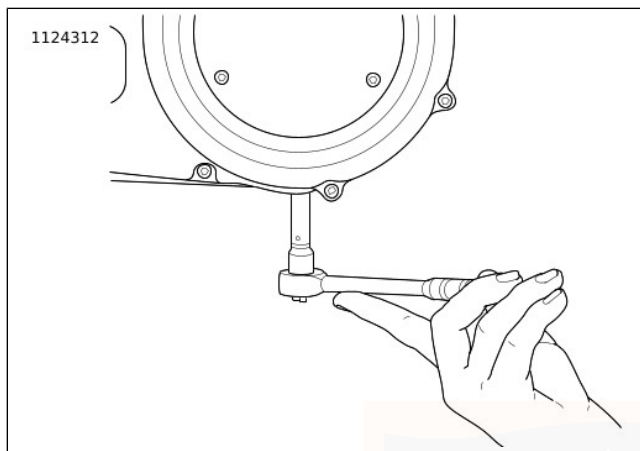

Figure 59. Removal/Installation of Chaincase Drain Plug
3. See Figure 59. Drain primary chaincase.